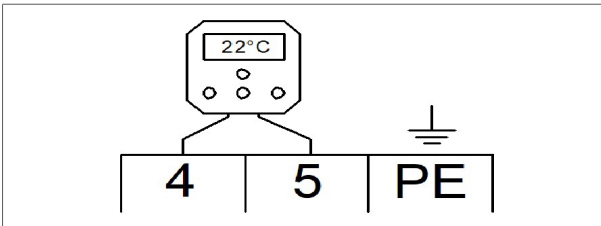

Figure 8 - Modulating thermostat connection
1. Connect the two control wires to terminals 4 and 5 (see figure 8 or the electrical wiring diagram in §11).